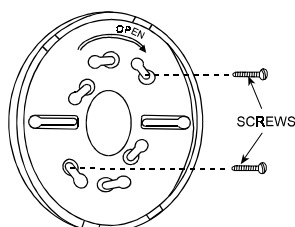

Figure 6. Mounting the Bracket
- F. Using the two screws and wall plugs (all supplied), attach the bracket to the wall (see Figure 6).